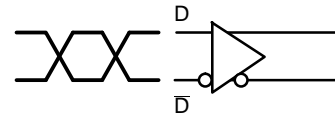

Figure 15. Differential Inputs Driven Differentially
**DIFFERENTIAL INPUTS DRIVEN DIFFERENTIALLY** (Figures 15 and 17)